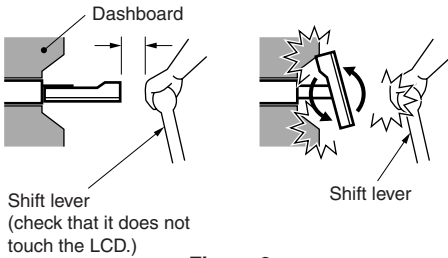

Figure 2
2. This model is used with the LCD panel slid forwards (shell loading system). On some types of cars, the LCD panel may touch the dashboard or shift lever, in which case it cannot be installed. Check that the set will not hamper operation of the shift lever before choosing where to install it.(Figure 2)